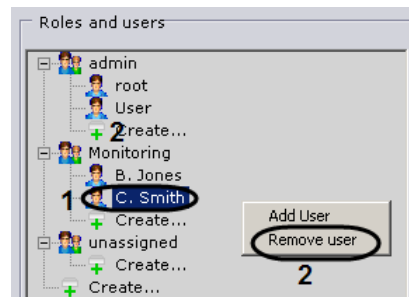

Fig. 6.12—7 Deleting a user
3. Select **Delete user** (see Fig. 6.12—7, 2).